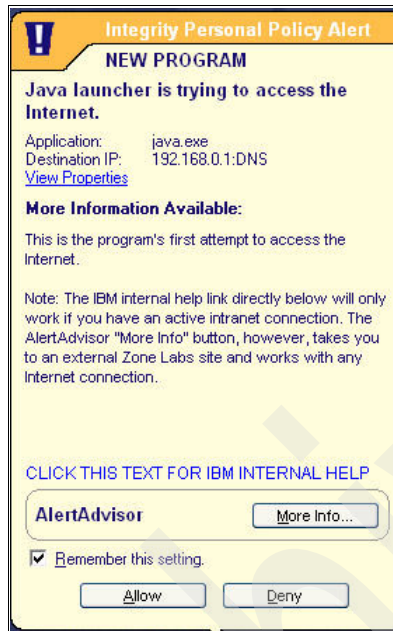

Figure B-8 Firewall detection message
7. As this process begins you may see firewall warning messages similar to the one shown in Figure B-8. You must respond to this message to continue with the installation based on your particular firewall scheme.